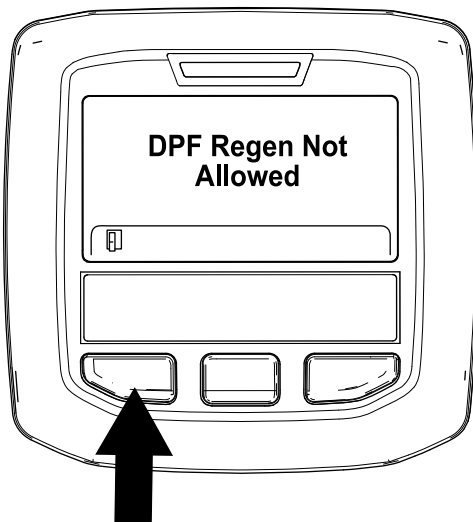

Figure 57
- If the regeneration process is not allowed by the engine computer, the "DPF Regen Not Allowed" message displays in the InfoCenter (Figure 57). Press the left button to exit to the home screen